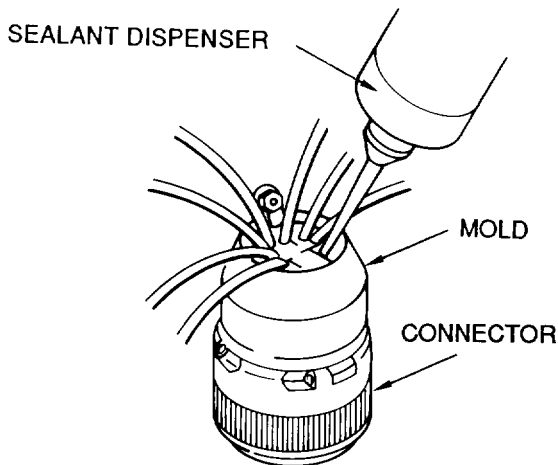

Figure 4. Injecting Sealant
(2) Snap potting boot over lip of potting boot ring.
(3) Apply sealant.
d. Insert nozzle between wires as close as possible to connector insert without touching it. Inject sealant slowly, moving nozzle back from connector as compound fills mold. Ensure no bubbles are trapped during injection (Figure 4).